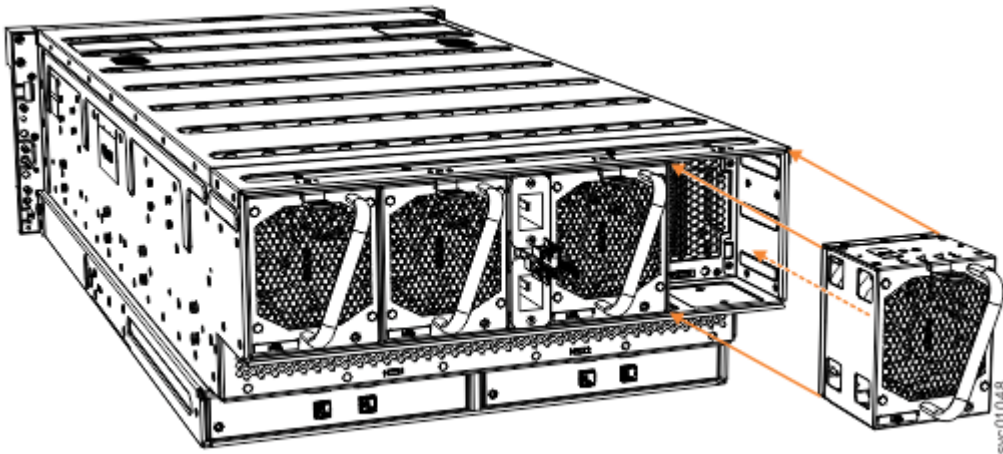

Figure 166. Remove and replace a fan module
3. Use the handle to pull the fan module out of the expansion enclosure chassis, as shown in Figure 166 on page 204.
6. Carefully insert the fan module into the chassis until it clicks in place, as shown in Figure 166 on page 204.